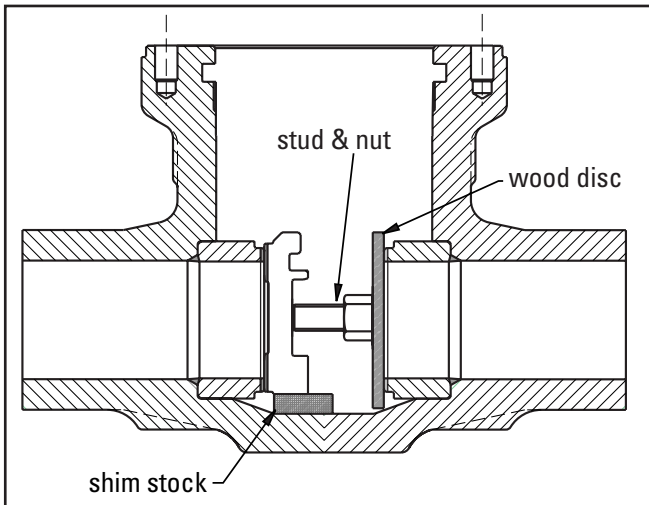

Figure 5.2L Parallel slide
- After the seating faces of the disc and seat have been relapped and cleaned with a suitable cleaning fluid such as acetone or alcohol, it is essential that the results be verified using a blue ink test, check for full circumferential contact. A light coating of blue ink should be distributed smoothly and equally over the seating diameter of the disc. To maintain the disc concentric with the seat, place shim stock at the bottom of the valve body and lower the disc. Using a wood disc, a stud and nut and tension against the opposite seat, refer to Fig. 5.2L.